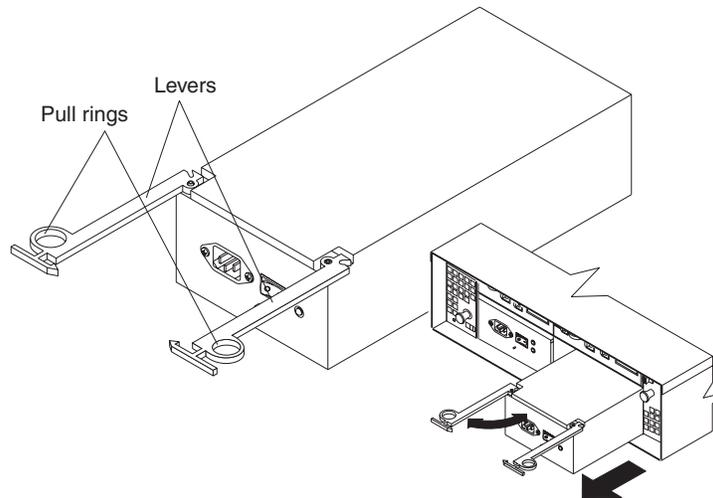

Figure 8. Removing a power supply CRU
2. Pull the lever open and remove the power supply as shown in Figure 8 on page 15.